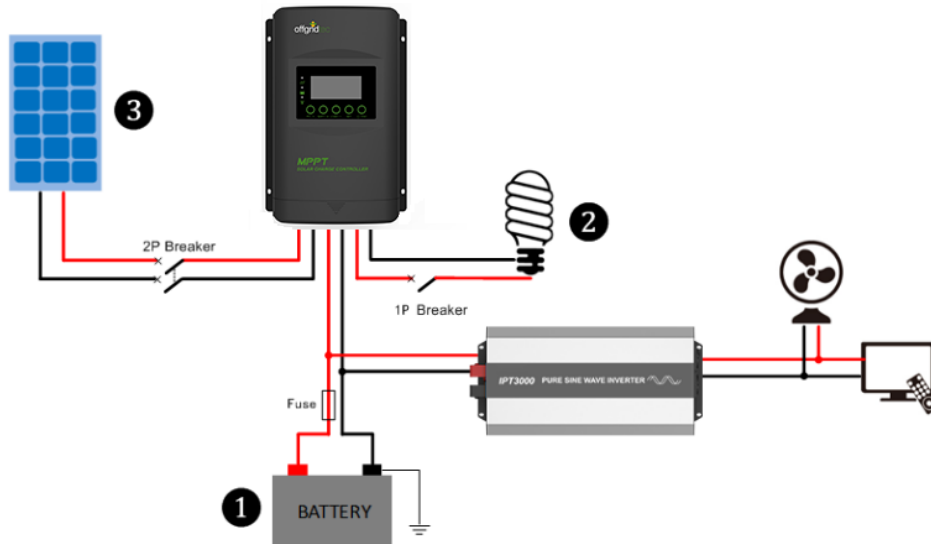

Figure 2.2 Schematic of wiring diagram
**Step 2:** Connect the system in the order of ① battery ② load ③ PV array by Figure 2.2 "Schematic Wiring Diagram" and disconnect the system in the reverse order ③②①.